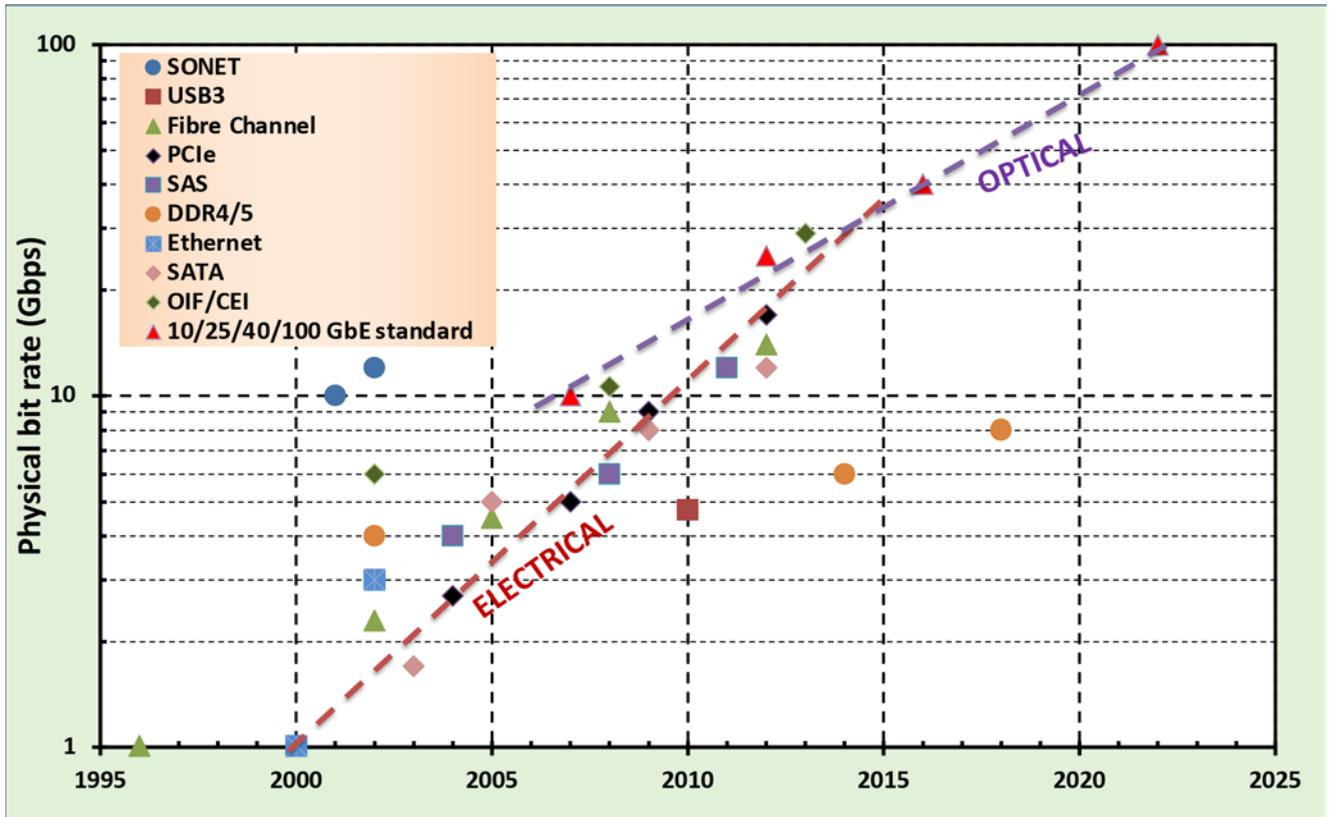

Figure 1: Internet bandwidth and IP traffic trends place a greater load on communication infrastructures. (Source: CISCO VNI, 2010)
- Bandwidth of the internet for “packets” and the growing volume of data (Figure 1)
expected to increase to 16 Gbps by Gen 4.0. Figure 1 shows the internet and IP traffic demand trends.